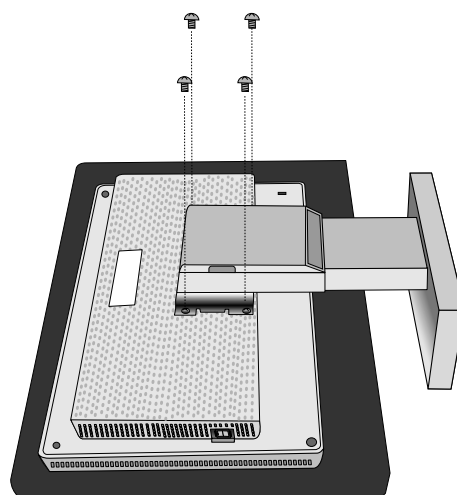

Figure R.3
5. Remove the 4 screws connecting the monitor to the stand and lift off the stand assembly (**Figure R.3**) the monitor is now ready for mounting in an alternate manner.